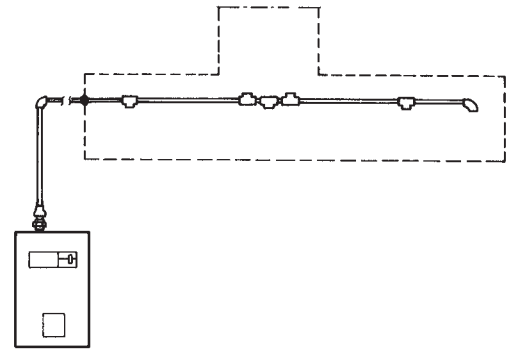

FIGURE 13
2. Based on the piping sketch developed in the "System Design" section of this manual, install the supply line and position the tees at points where branch lines must be installed. See Figure 13.